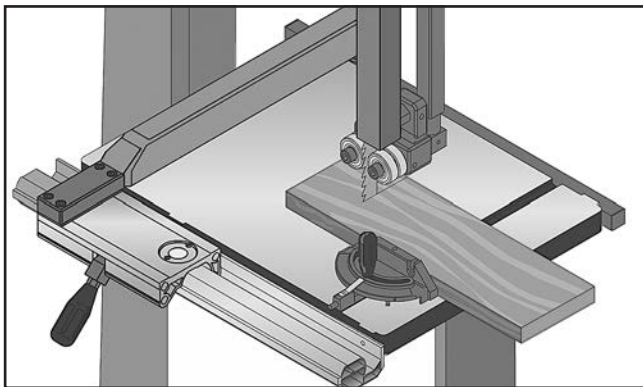

Figure 79. Example of a crosscutting operation with the miter gauge.
5. After all safety precautions have been met, turn bandsaw **ON** and wait for it to come to full speed. Slowly feed workpiece into blade until blade is all the way through workpiece. **Figure 79** shows an example of a crosscutting operation.